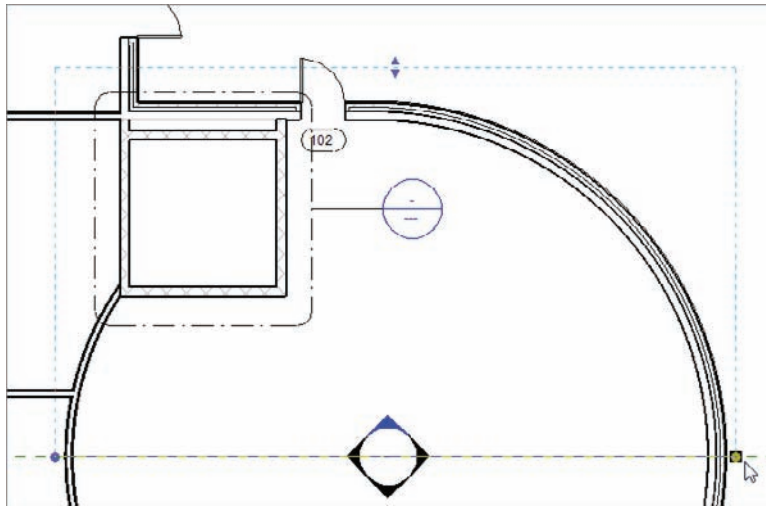

FIGURE 3.84 Making the adjustments to bring the view back into a reasonable range
3. Select the East Wing Entry North Elevation again. Notice that the view's extents are stretching past the entry atrium. Pick the blue grips at the end of the elevations and bring them into the atrium area, as shown in Figure 3.84. Also, drag the view limit up to show the radial exterior wall (see Figure 3.84).